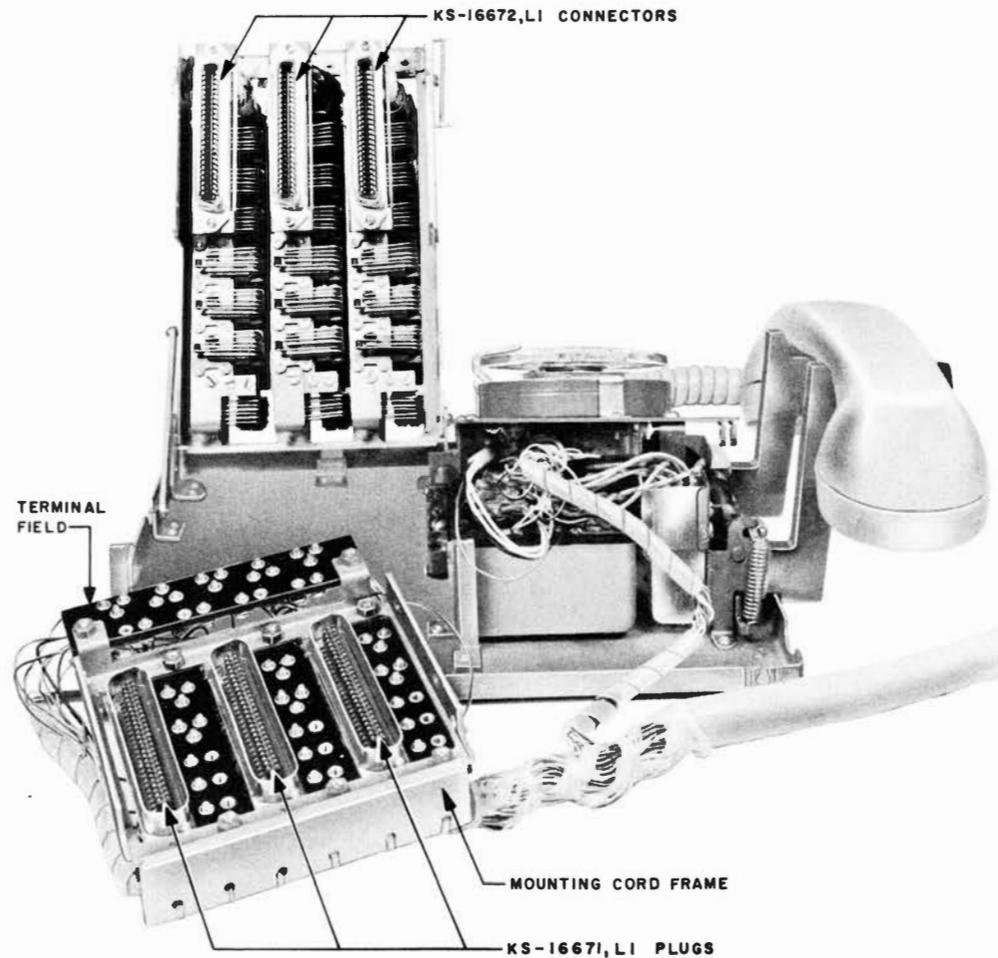

Fig. 16 – 600-Type Telephone Set Showing Removal of Cord Frame
6. Remove four screws which secure the cord assembly frame (Fig. 16).